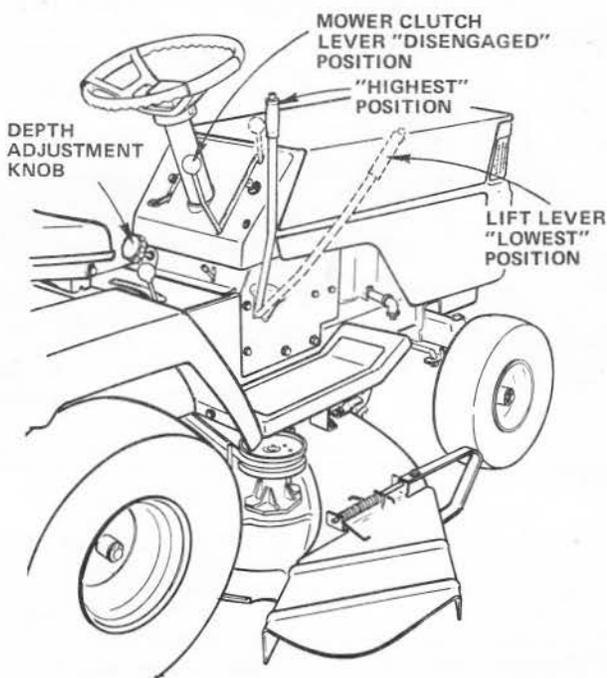

FIGURE 37
If the Mower Clutch Lever (Fig. 37) travels 3 - 1/2" up the slot in the dash before spring tension resistance is evident, adjustment is necessary. NOTE: CHECK FOR PROPER SPRING TENSION WITH ENGINE OFF AND LIFT LEVER IN HIGHEST POSITION.
1. Place Mower Blade Clutch Lever in "DISENGAGED" position (Fig. 37).
2. Turn Depth Adjustment Knob to lowest position. Move Mower Lift Lever (Fig. 37) forward to lower Mower to its lowest position.